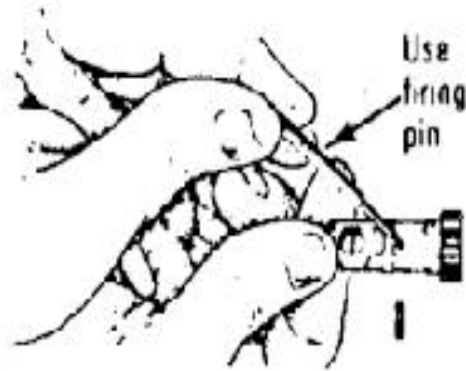

Figure E-17. Removing the extractor pin.
o. Remove the extractor pin by pushing it out with the firing pin (use care not to damage the firing pin) (figure E-17).